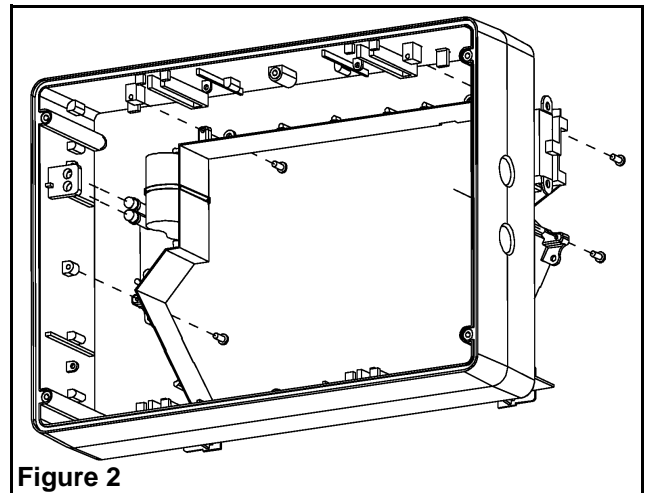

Figure 2
- d. In order to access the knockouts of the frame, remove the 4 electronic module screw(s) holding the electronic module to the frame and separate them (see fig.2).